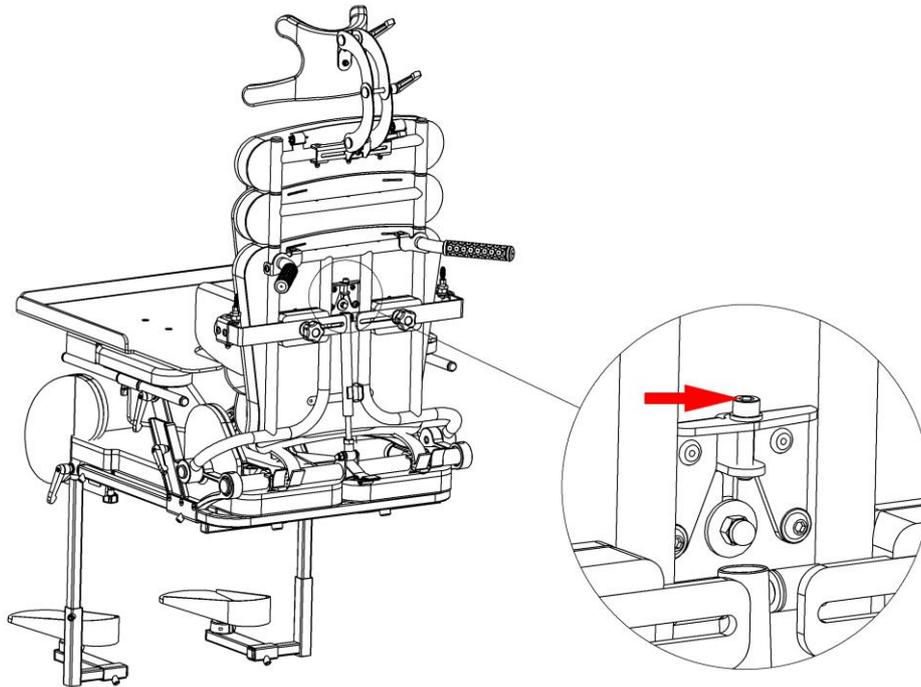
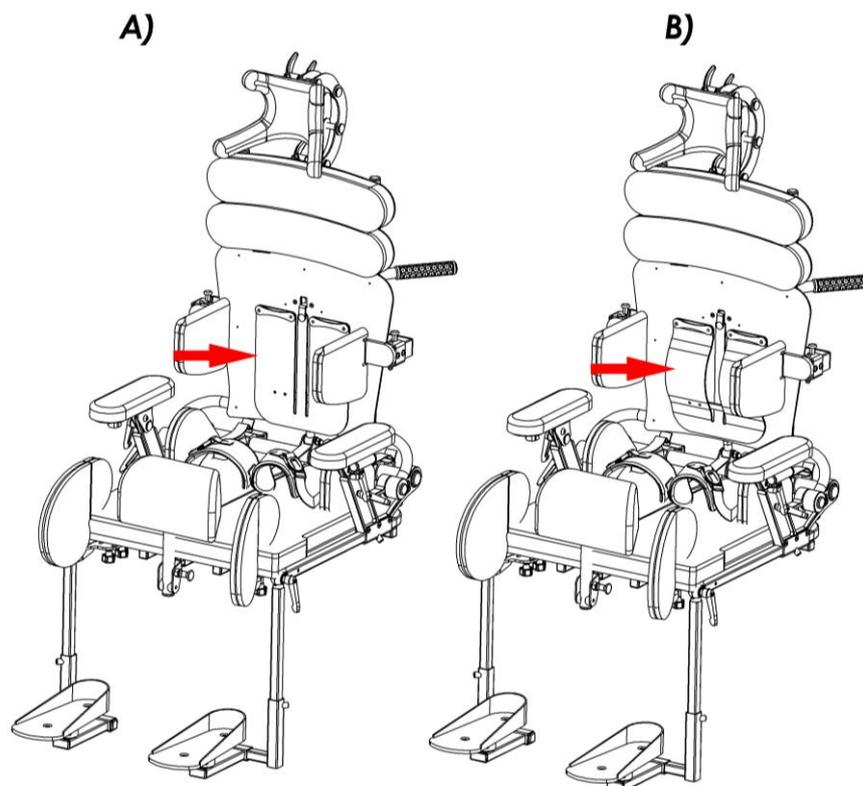

Fig. 50
Fig. 51
The lumbar support is adjusted by a screw at the back of the backrest, marked with the red arrow Fig. 50. Tightening the screw changes the shape of the back rest from completely flat profile, as in Fig. 51 (A) to curved profile mapping out the curvatures of the spine Fig. 51 (B).